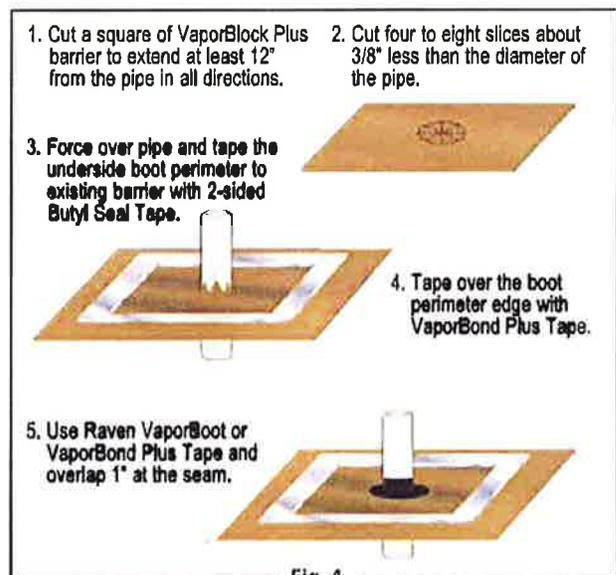

Fig. 4
Pipe boots may also be fabricated from excess **VaporBlock Plus** membrane (Fig. 4 & 6) and sealed with VaporBoot Tape or VaporBond Plus Tape (sold separately).
To fabricate pipe boots from **VaporBlock Plus** excess material (see Fig. 4 & 6 for A-F):
- F) Complete the process by taping over the boot perimeter edge with VaporBond Plus Tape to create a monolithic membrane between the surface of the slab and gas/ moisture sources below and at the slab perimeter. (Fig. 4 & 6)